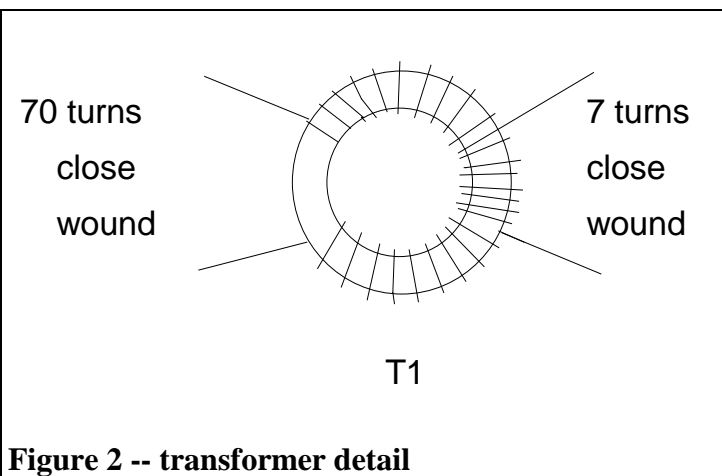

Figure 2 -- transformer detail
- T1 balun uses Amidon FT 82-61 core wound with #30 magnet wire per detail in Figure 2 below